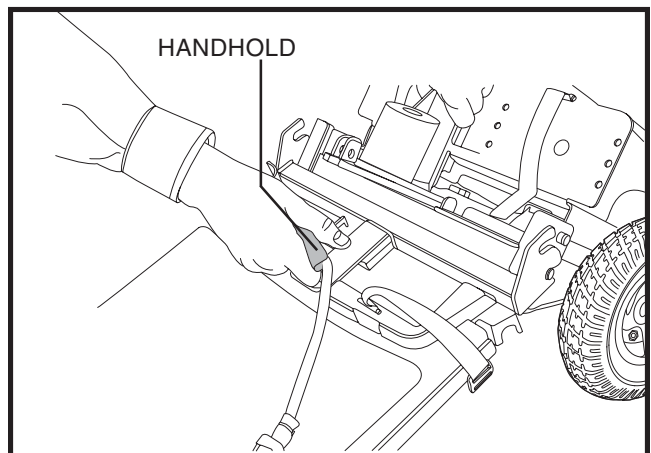

Figure 16. Frame Separation
- Pull up on the handhold (located on the front section) and push back on the seat post, then gently separate the sections of the scooter. See figure 16.